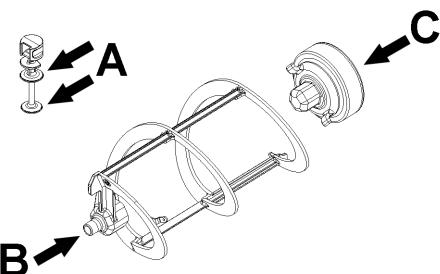
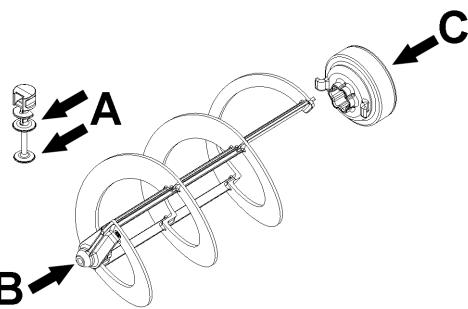

figure 9
figure 10
- 2** Lubricate the tap piston, the hexagonal joint and the mixer at the points indicated in figure 9 (NG6) or figure 10 (NG10), using only the grease that came with the machine or other
- 3** Reassemble the tap on the container in reverse order compared to that shown in figure 9 and figure 10.